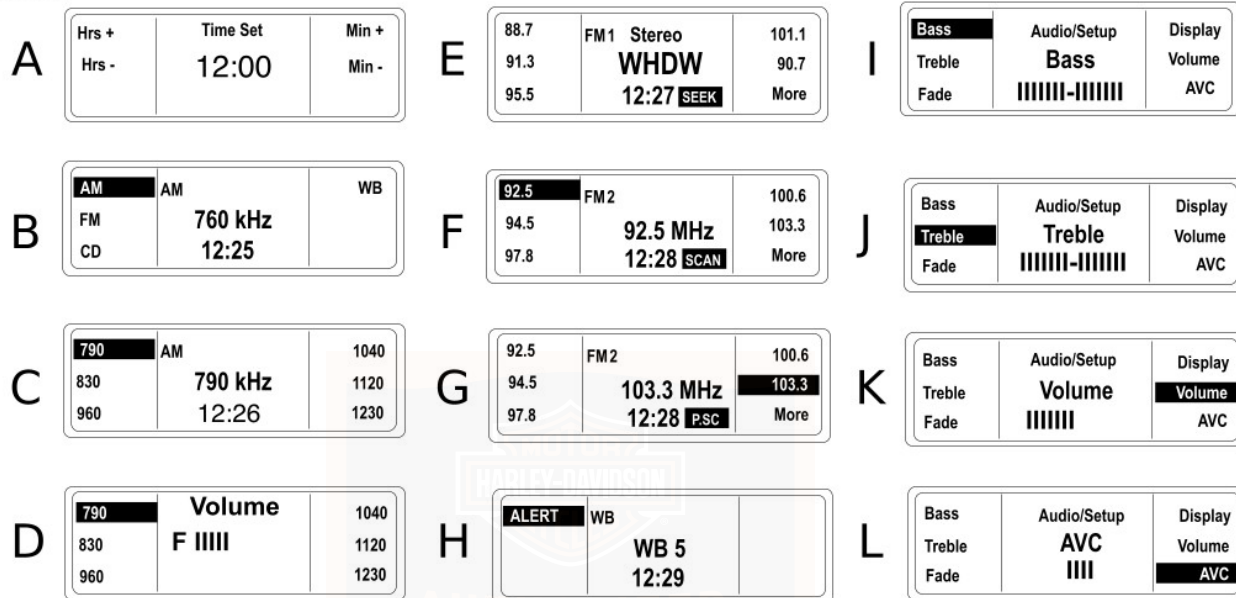

Figure 28. LCD Display Examples
See A in Figure 28. To increase the hours in the display press the Hrs+ soft key. To decrease hours press the Hrs- soft key. When the hour is correct, release the soft key.
See B in Figure 28. The LCD highlights the selected band.
See D in Figure 28. At any time the receiver is playing, the volume can be adjusted by pressing the **AUDIO** switch up (+) to increase volume or down (-) to decrease volume.
See E in Figure 28. Normally, the Advanced Audio System plays FM signals in stereo. The LCD will indicate **STEREO**.
See H in Figure 28. Broadcast by the National Oceanic and Atmospheric Administration (NOAA) National Weather Band (WB) frequencies are available in North America only.
See E in Figure 28. In SEEK, the radio tunes in to the next strong station.
See F in Figure 28. Press and hold the **MODE SEL** switch **UP** or **DN** approximately 5 seconds to scan the band for strong station signals. Each strong station remains tuned in for 8 seconds before the radio scans to the next station. The receiver will continue to scan until cancelled.
See C in Figure 28. AM can store 6 preset frequencies.
*See E and F in Figure 28. Separate FM1 and FM2 bands allow the rider to store 2 sets of 5 preset FM frequencies (10 total). Use the **More** soft key to toggle between FM1 and FM2. The full range of FM frequencies can be selected in either FM1 or FM2.*
See G in Figure 28. In preset SCAN, the radio continuously tunes from one preset station to the next until the preset SCAN is cancelled. A P.SC icon will display while preset SCAN is active.
See D in Figure 28. Volume is adjusted with the **AUDIO** switch on the left hand grip. Using left thumb, press the **AUDIO** switch up (+) to raise the volume or down (-) to lower the volume.
See K in Figure 28. Volume can also be adjusted in Audio/Setup.
BASS: See I in Figure 28. Press **AUDIO** to display Bass Audio/Setup. Using the left thumb, press the **AUDIO** switch up (+) to increase the bass range or down (-) to lower the bass range. The LCD displays the word Bass and a dashed line that changes length with the setting. The short center dash indicates a middle setting.
TREBLE: See J in Figure 28. From Bass Audio/Setup, press and release **AUDIO** to sequence to Treble. Using the left thumb, press the **AUDIO** switch up (+) to increase the treble range or down (-) to lower the treble range.
See J in Figure 28. The LCD displays the word Treble and a bar graph that changes length with the setting. The short center dash indicates a middle setting.
See L in Figure 28. Automatic Volume Control (AVC) automatically adjusts volume level to compensate for ambient noise associated with motorcycle speed.